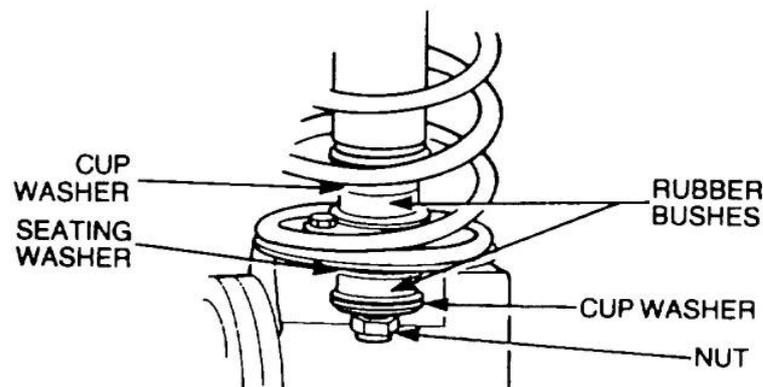

Figure 113 Installation of the Front Shock Absorber
- k. Ensure that the upper cup washer, rubber bush and seating washers are fitted to the shock absorber threaded rods (Figure 113). Position the threaded rods in the axle casing bracket and fit the lower seating washer, rubber bush, cup washer and nut to each shock absorber. Tighten the nuts securely.